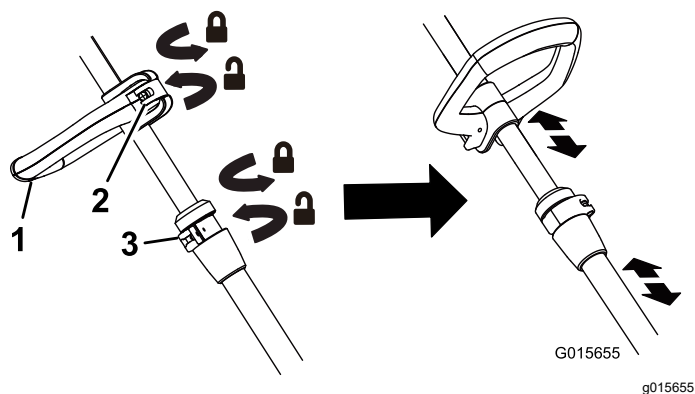

Figure 4
- To adjust the auxiliary handle height, release the auxiliary handle latch, slide the auxiliary handle up or down to the desired height, then secure the auxiliary handle in place by closing the auxiliary handle latch (Figure 4).
- To adjust the trimmer height, open the height adjustment latch, then slide the shaft up or down to desired height, securing it in place with the latch (Figure 4).